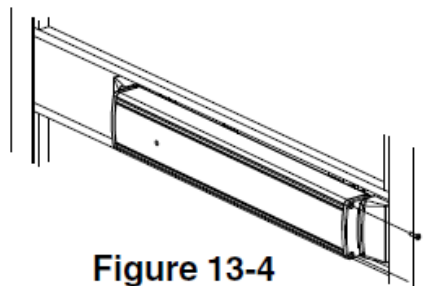

Figure 13-4
- 13.4. Raise end cap so screw holes align with holes in touchbar and re-install screws (Figure 13-4).